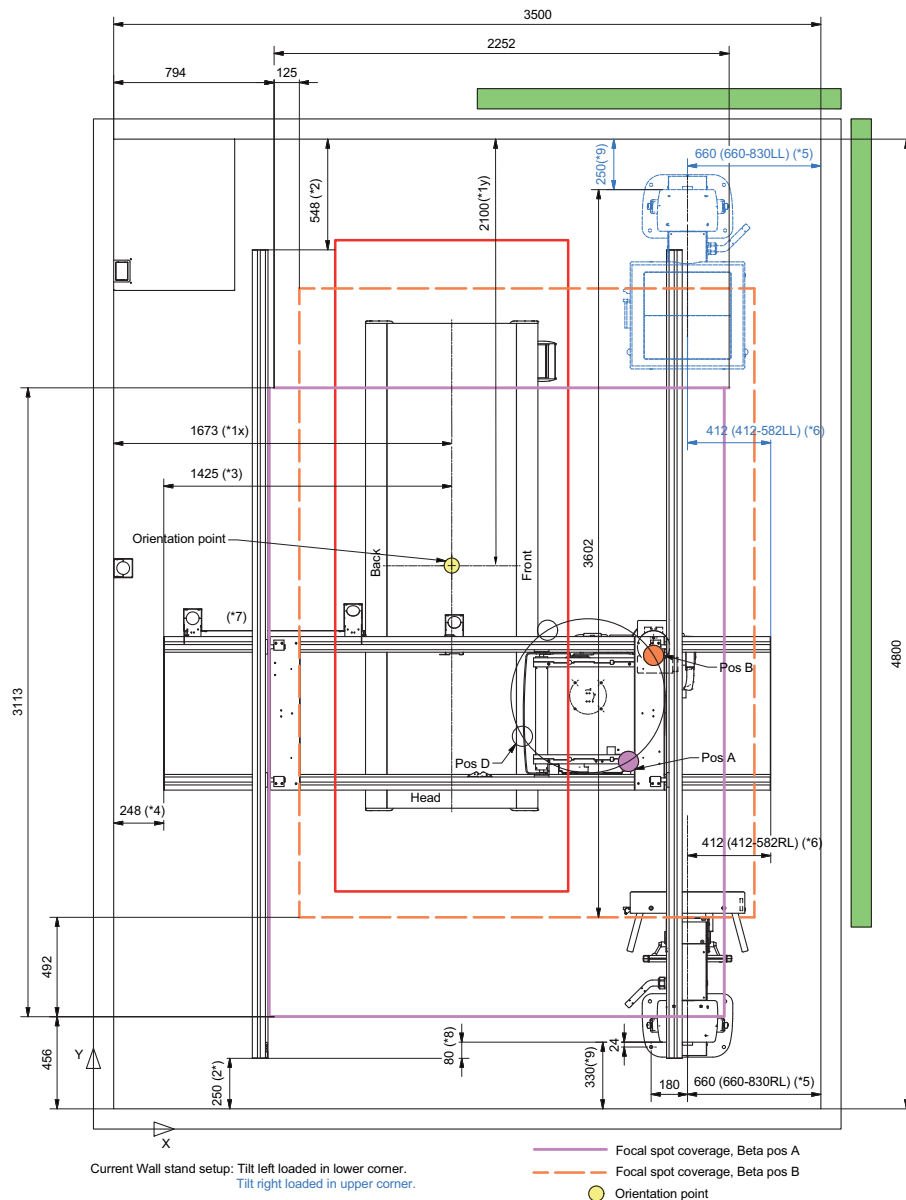

Figure 5-4
- **(*2)** is chosen due to the room size in layout 1 (*Figure 5-4*). It makes it possible to cover the table and horizontal wall stand when beta is in position B. **(*2)** must not be less than 100 mm.